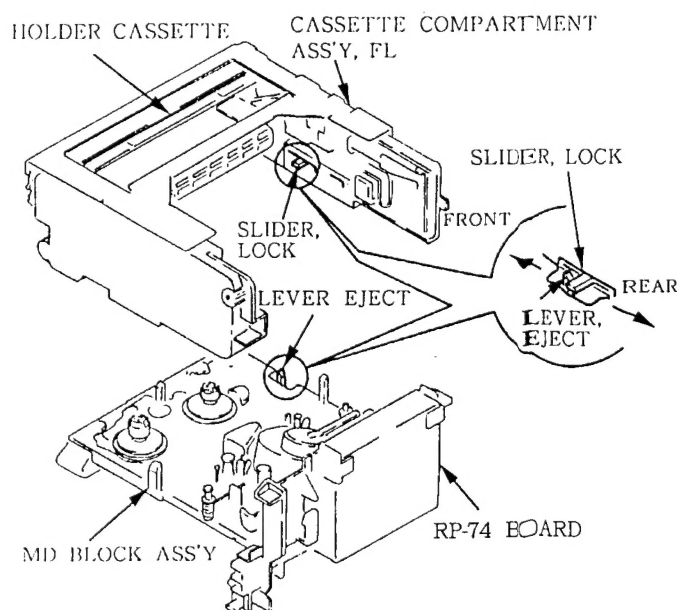

Fig. 1.
1. After installing the cassette compartment ass'y onto the MD block ass'y, look from the front panel and check if the tab of the eject lever (MD block ass'y) is properly latched onto the rear of the knob of the lock slider (cassette compartment ass'y). See Fig. 1.
- Hold the drum by the upper part (Part B), do not touch the side of the drum (Part A) directly. See Fig. 1.